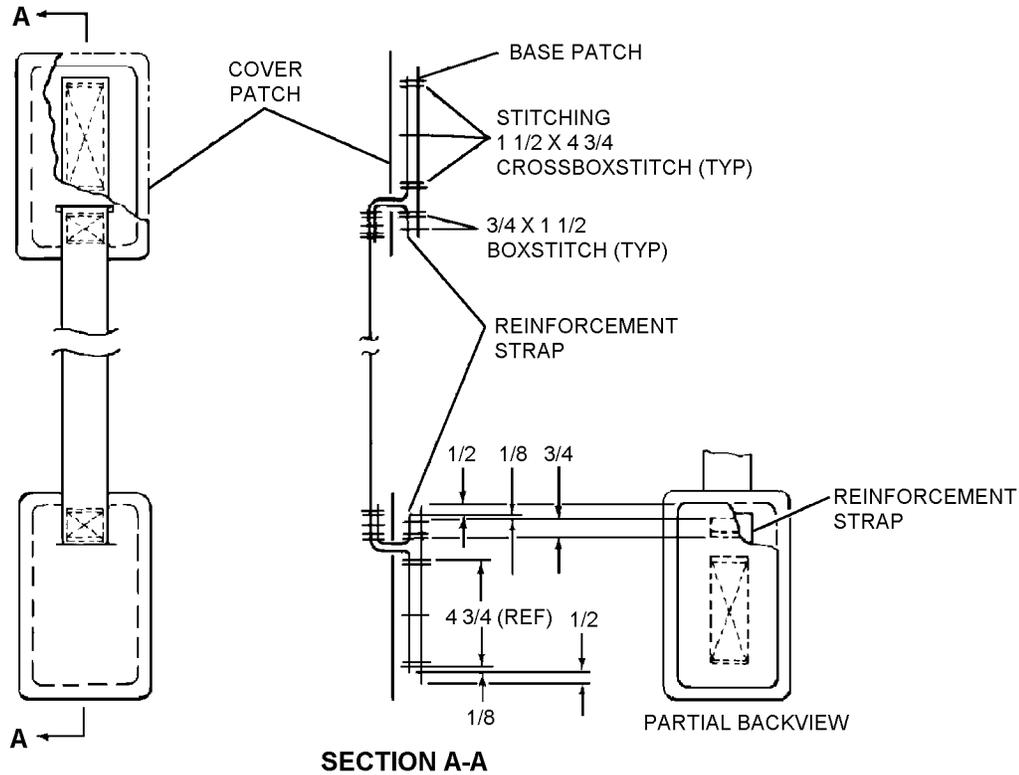

Figure 8-18. Fabrication of Boarding Stirrup Assembly
6. Stitch reinforcement strap to 7 x 4-inch base patch with a 1 1/2 x 3/4-inch boxstitch pattern. Stitch boarding stirrup strap to base-patch with a 1 1/2 x 4 3/4-inch crossboxstitch pattern. See figure 8-18.